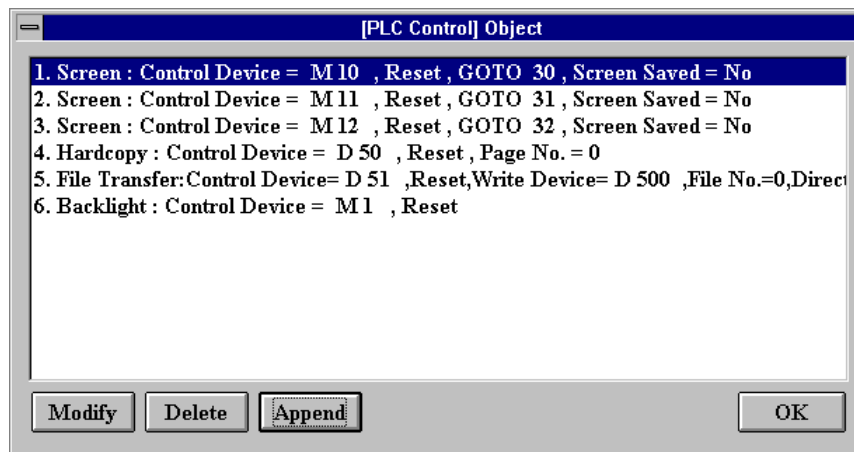

Fig. 3-22: the PLC Control Object Summary
- 1) Choose the **PLC Control** option in **Edit** menu or click on the **PLC Control** icon in the **tool bar**. A **PLC Control Object Summary** window is popped up as show in Fig. 3-22.